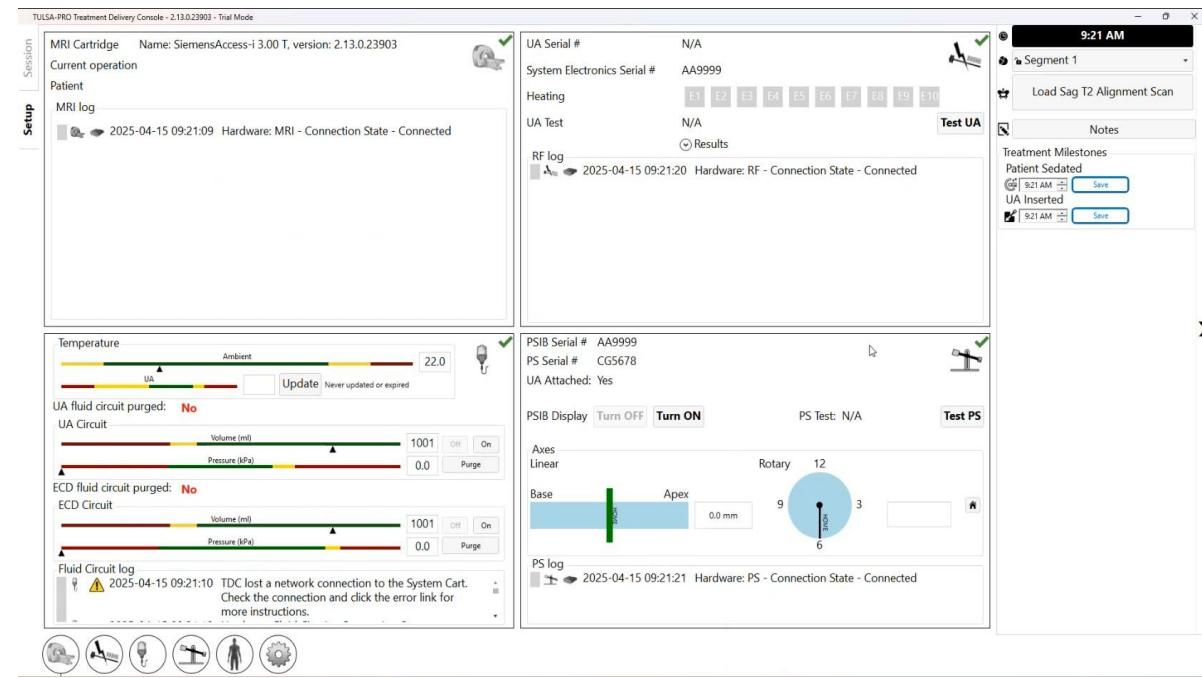

Figure 6: Setup workspace of the TDC software
3. After selecting **New Session**, you will enter the **Setup Workspace** (Figure 6) where you can ensure all equipment is functioning properly before proceeding.